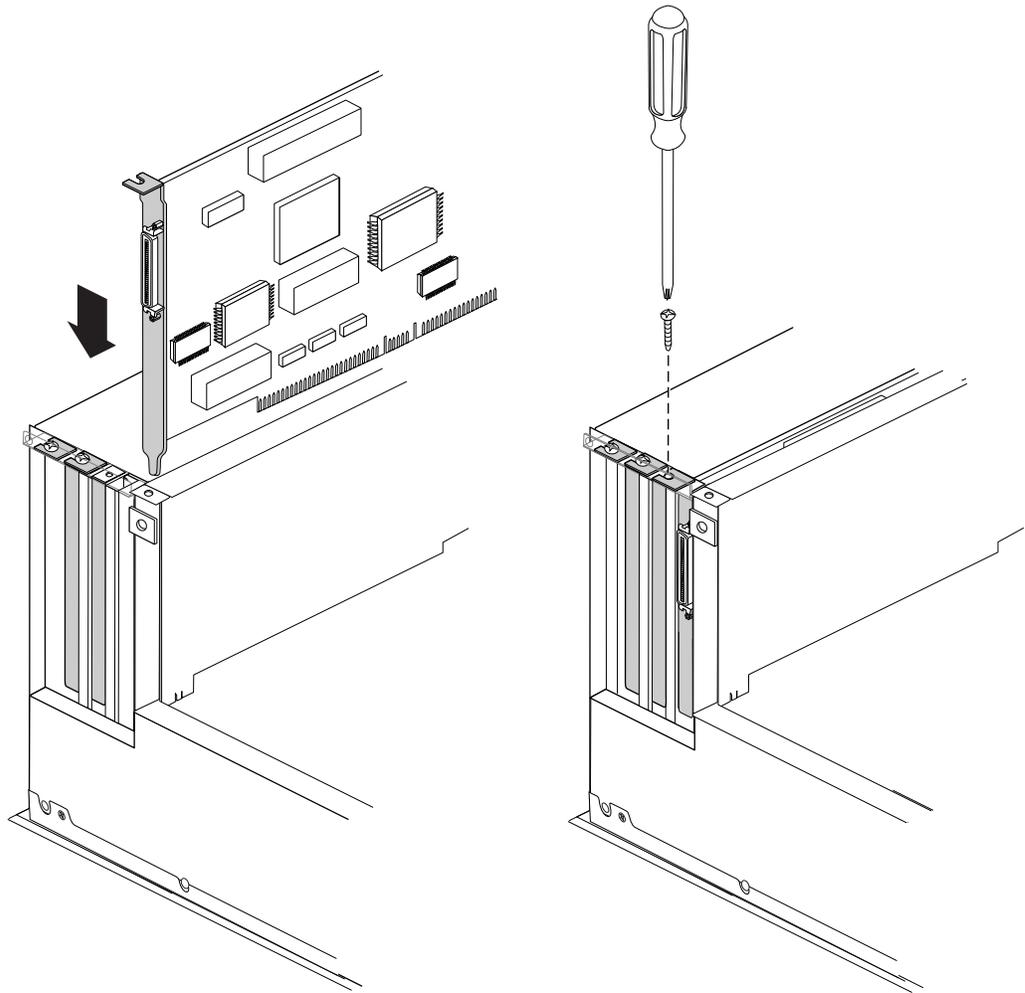

Figure 6-4 Inserting a PCI Option Board
- Align the connector on the base of the PCI card with the PCI slot, as shown in Figure 6-4.
- Press the card down into the slot until it engages. See Figure 6-4.
- Attach the screw that secures the PCI option board to the chassis, as shown in Figure 6-4.